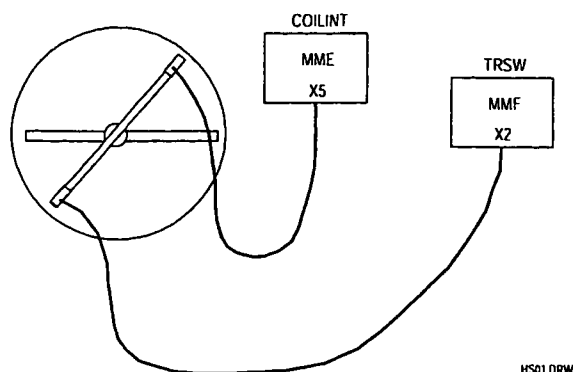

Figure 2 Flux probe connections
10. Connect the other flux probe to MME X5 of the coilint. See also Figure 2.